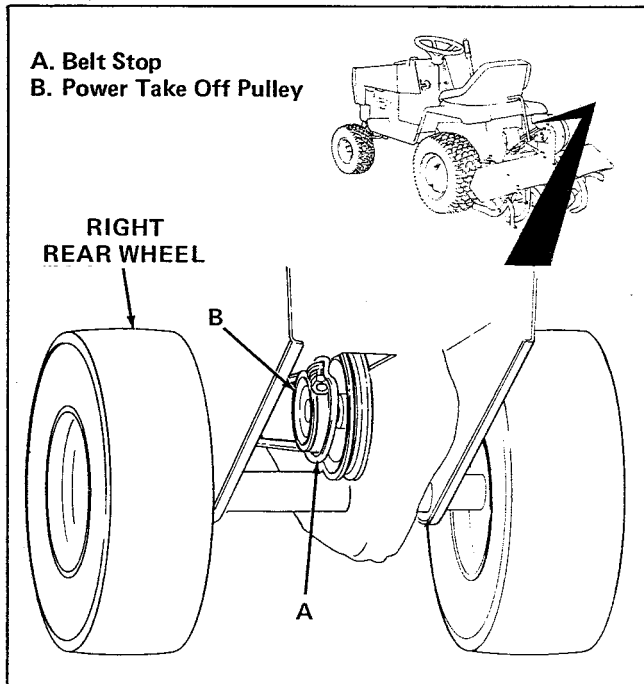

Figure 4. Install Drive Belt on Tractor Pulley
10. Loosen, but do not remove, nut that secures belt stop (item A, figure 4) for tractor power take-off pulley (item B). This pulley is located under tractor near right rear wheel.
2. Loosen nut that secures belt stop (item A, figure 4). Pull tiller drive belt off tractor power take-off pulley. Then retighten nut to secure belt stop.